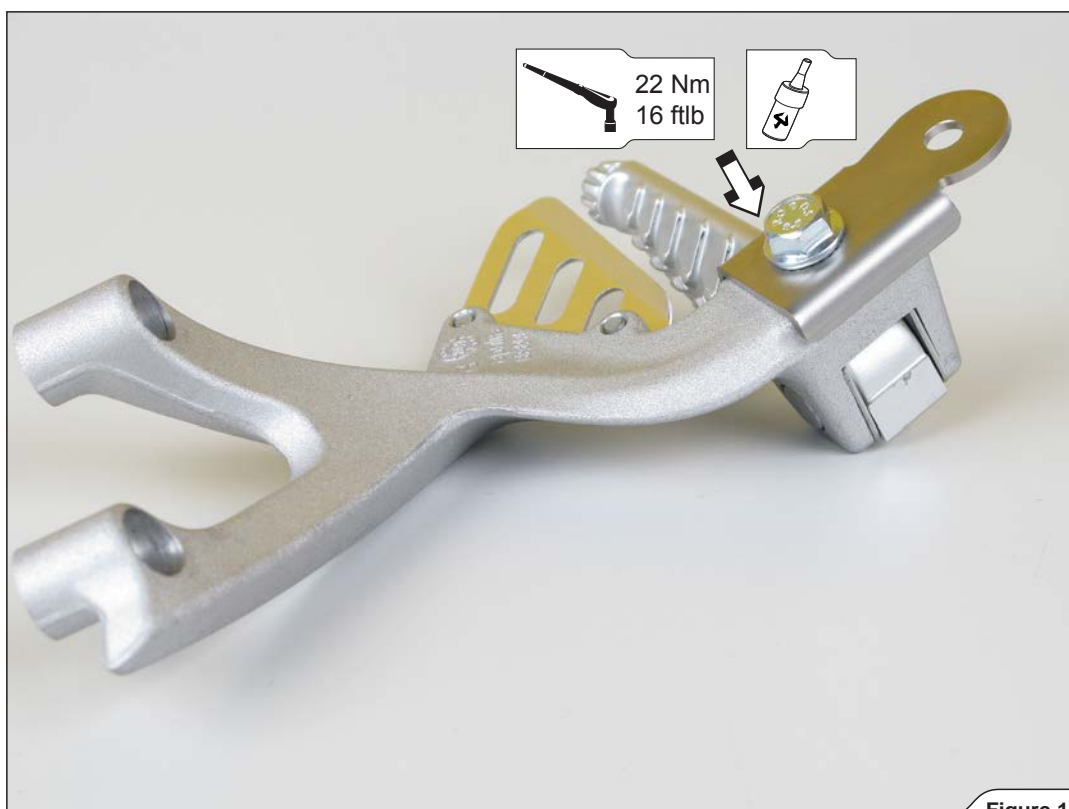

Figure 13
5. Attach the additional Akrapovič stainless steel bracket to the stock passenger's footrest, using Akrapovič M8x16 bolt (**Figure 13**).